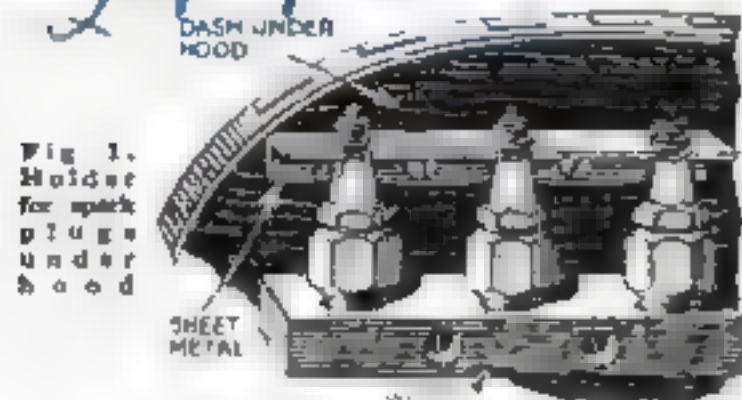

Fig. 1. Holder for spark plugs under hood.
**W**HENEVER spark plugs are carried loosely under the seat or in the toolchest, it is often found that the porcelains have been cracked. A safer and more convenient method is to carry the spare plugs on a rack fastened to the dash under the hood (Fig. 1). A wooden strip, bored with holes to receive the threaded ends of the spark plugs, is fastened with wood screws under a bent strip of sheet metal which is able to